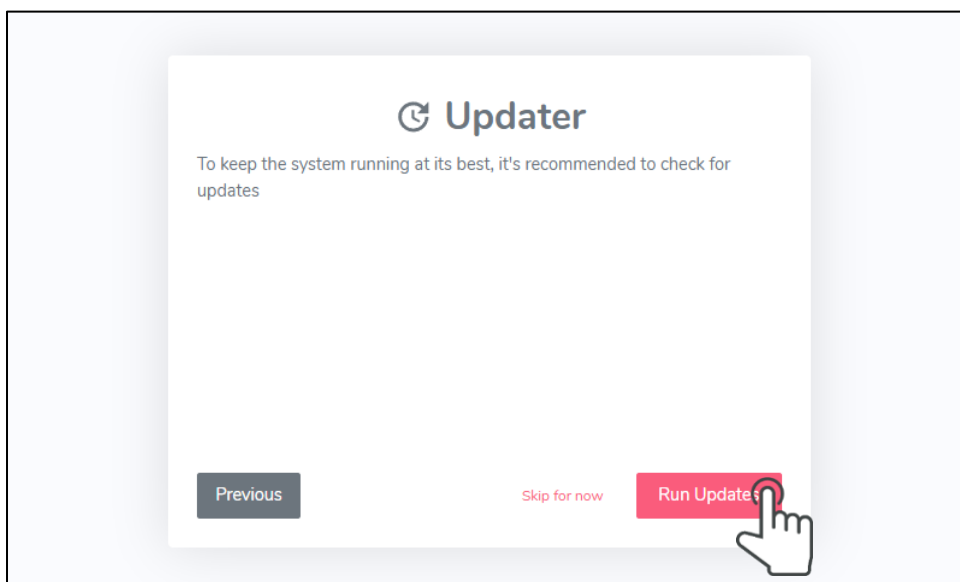

Figure 8
4. In this step, it's recommended to perform updates to get the most of the machine. Tap on "Run Updates" and wait (Figure 8). Proceed once the machine has been updated.